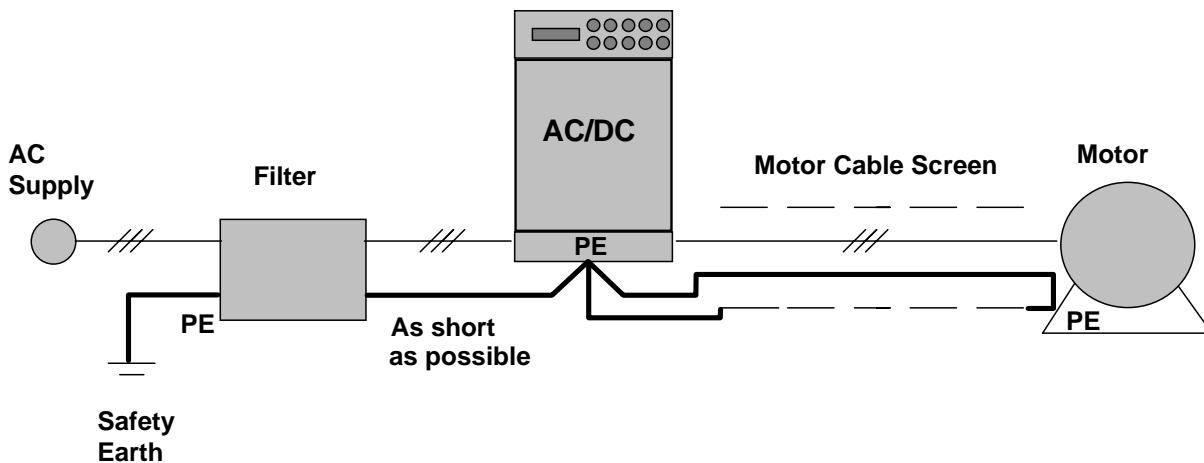

Fig. 3-11: Screening and earthing of a single 620 drive module.
Make sure the requirements of EN60204 are adhered to with electrical equipment for machines. Satisfactory EMC performance is only achievable when the 620 drive module, filter and associated equipment is mounted on a conducting metal mounting panel. Beware of constructions using insulating mounting panels or undefined mounting structures. A single point earthing strategy should be followed for a single drive module mounted in an enclosure as shown in figure 3-11. The protective earth connection (PE) to the motor must run inside the screened cable between the motor and 620 drive module, where it is to be connected to the motor protective earth terminal on the drive module. (Note in accordance with EN60204 only one protective earth conductor is permitted at each earth terminal contacting point). Local wiring regulations may require the protective-earth connection of the motor to be connected locally but this will not cause shielding problems due to the relatively high RF impedance of the local earth connection.
A single-point earthing policy as shown in Fig. 3-11 is required.